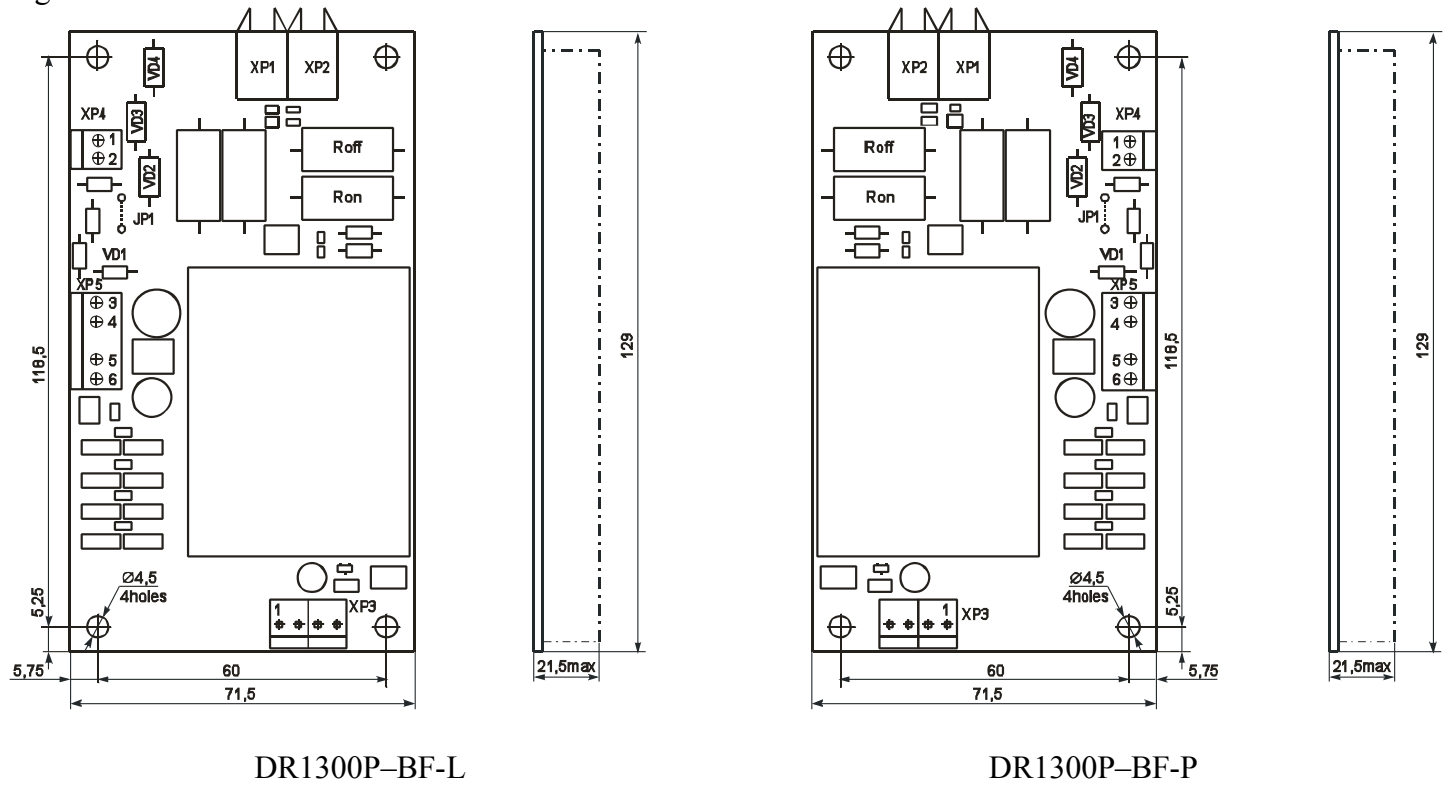
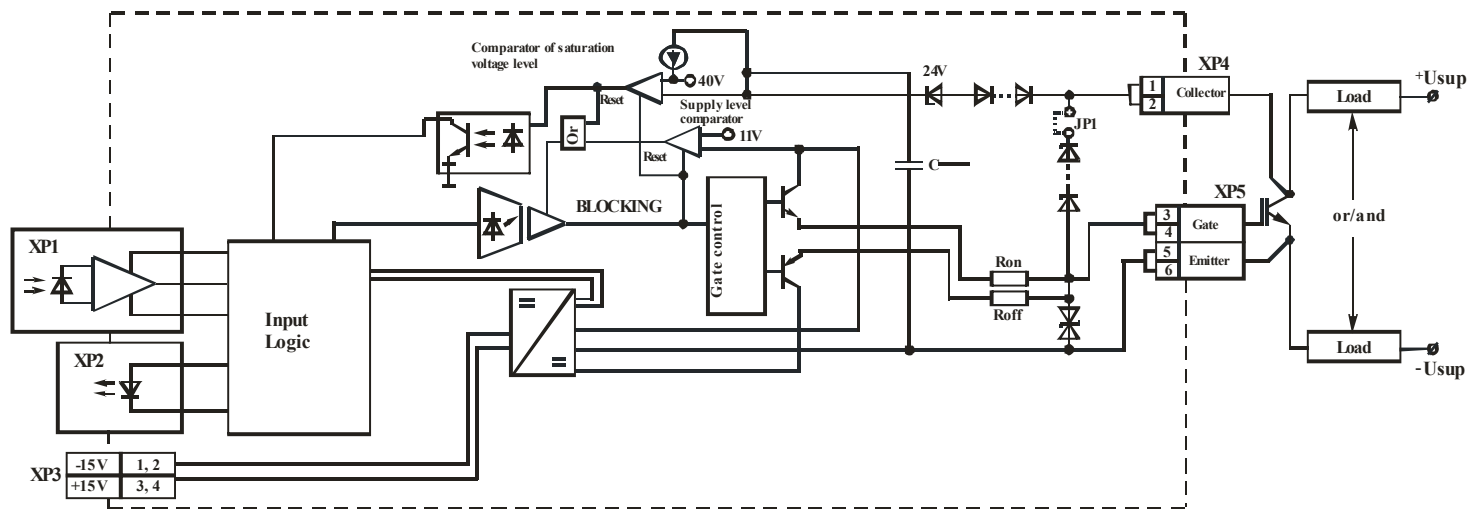
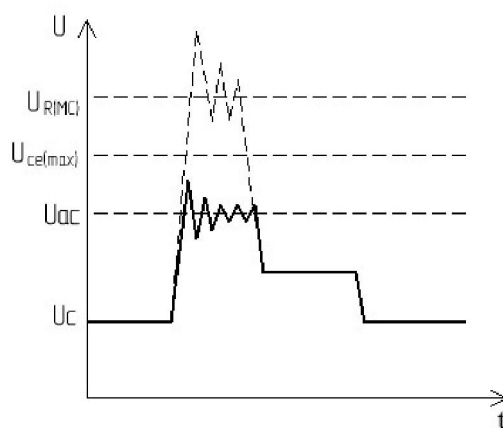

Figure 1 – Overall and connecting driver dimensions
Figure 2 – Functional electronic diagram
Figure 11 – Graph of driver operation when active protection operation
3.2 Overall drawing is shown at Figure 1, functional circuit and driver turn-on circuit are represented at Figure 2.
Over-voltage protection will operate with set jumper JP1 if output “Collector” voltage exceeds U_{ac} , ref. to Figure 11.
Gate – output, meant for gate connection of controlled transistor. The recommended connection circuit is shown at Figure 2.
Jumper JP1. If there is a jumper then active driver protection against collector voltage surges when inductive load commutation switches on. The level of active protection operation is shown in Table 2, ref. to Figure 2 and Figure 11.